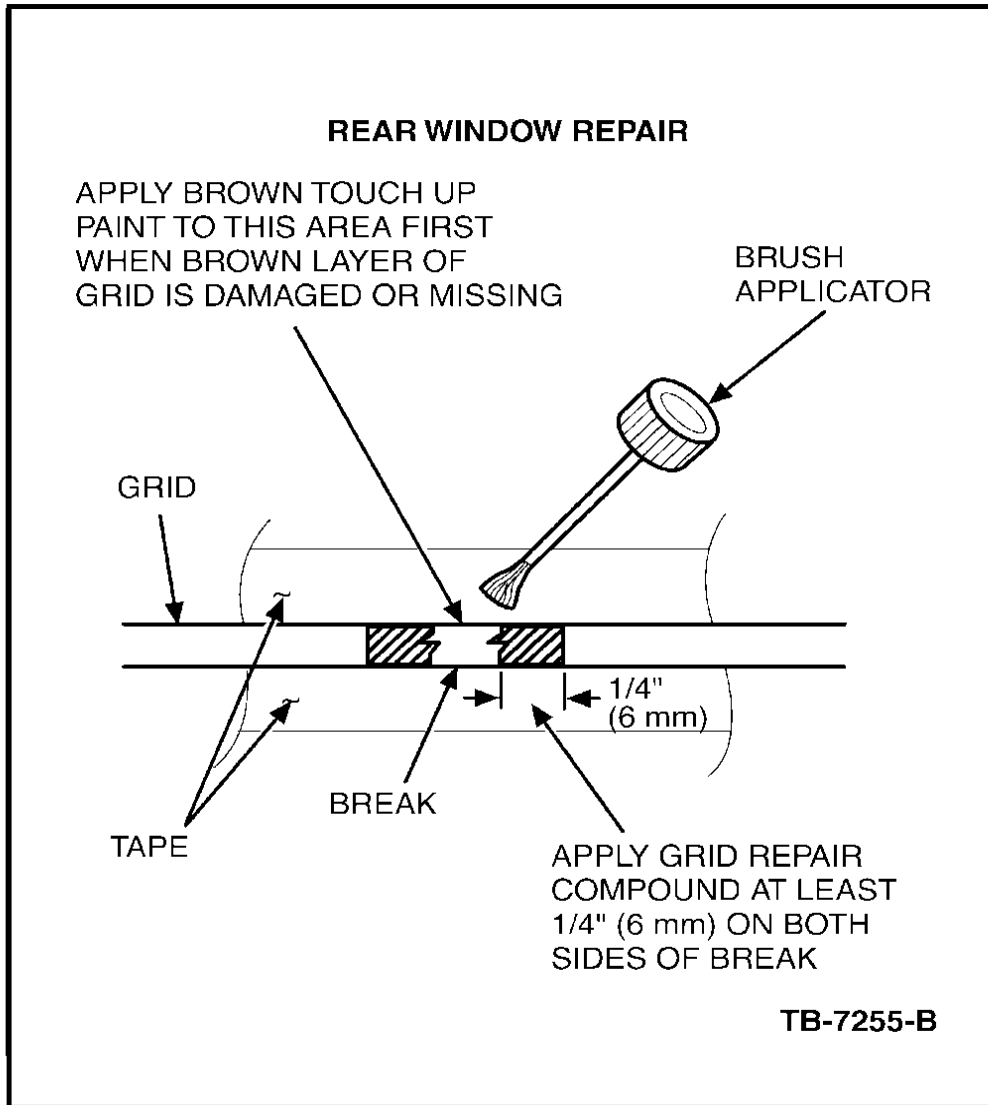

Figure 1
2. Using "fine line tape", mask off the area directly above and below open grid line (Figure 1). It is best to extend the tape 26 mm (1") beyond the concern area in both directions. The open should be at the center of the mask and tape gap must be no wider than the existing grid line. Other types of tape may be used but end results of the repair may not appear as visually acceptable due to ease of application and tape edge finish.
3. If the brown layer of the grid is not broken or missing, apply only the silver grid repair compound to the open grid line. Apply the correct coating in several smooth continuous strokes (allowing five (5) minutes drying time between coats) across the open grid line area using the brush applicator in the cap. Extend the service coating at least 6 mm (.25") on both sides of the open grid line area. Apply a minimum of six (6) coats of the grid repair compound.
4. If both brown and silver layers of the grid are broken or missing, apply a coating of brown lacquer touch-up paint across the open line area first. Take care to paint only the area missing the color. Two (2) coats may be necessary to obtain the proper color. Allow the touch-up paint to dry at least five (5) minutes between coats. Apply six (6) coats of grid repair compound.